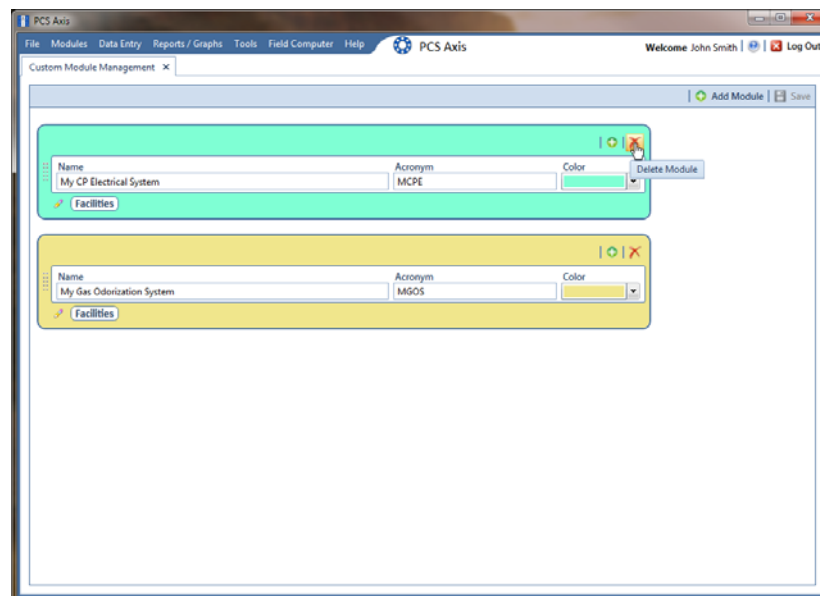

Figure 2-51. Custom Module Management
- 3 Click the  delete button for the user defined module you want to delete (Figure 2-51).